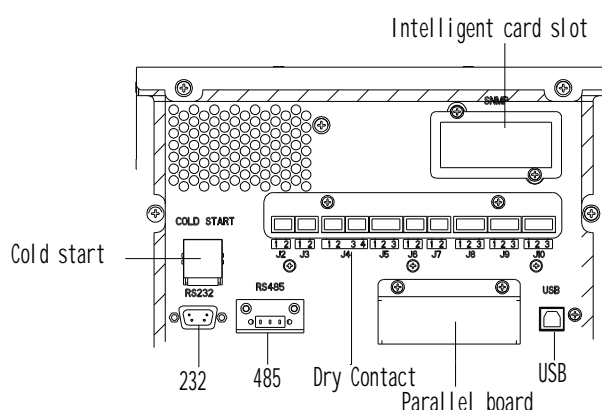

Fig.3-13 Dry contact & communication interface
2. Open the back door of the cabinet, remove the plastic cover. The input and output terminal, battery terminal and protective earth terminal are shown in Fig.3-11 & Fig 3.13.
Fig.3-13 connections terminals for 40kVA
The front panel of the bypass module provides dry contact interface (J2-J11) and communication interface (RS232, RS485, SNMP, Intelligent card interface and USB port), as it is shown in Fig.3-13.